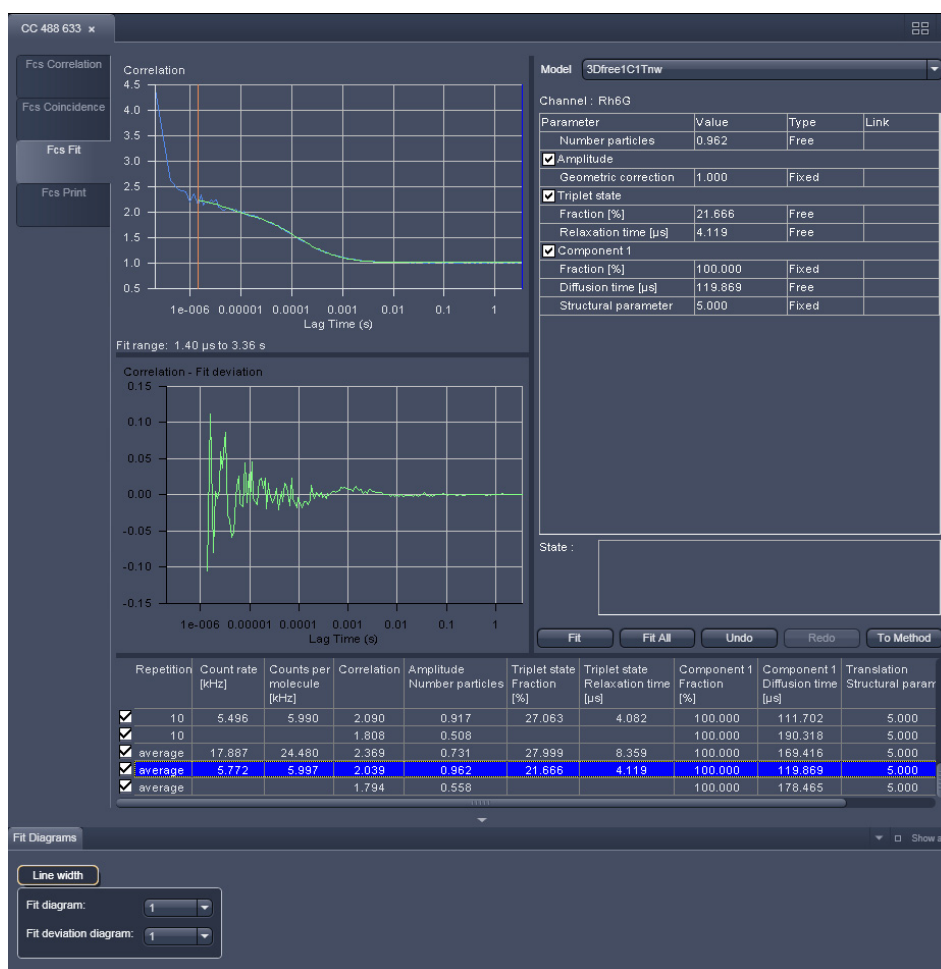

Fig. 104 FCS Fit diagram panel for correlation analysis
- Click on the **FCS Fit** tab to activate the **Fit** display mode (Fig. 104).